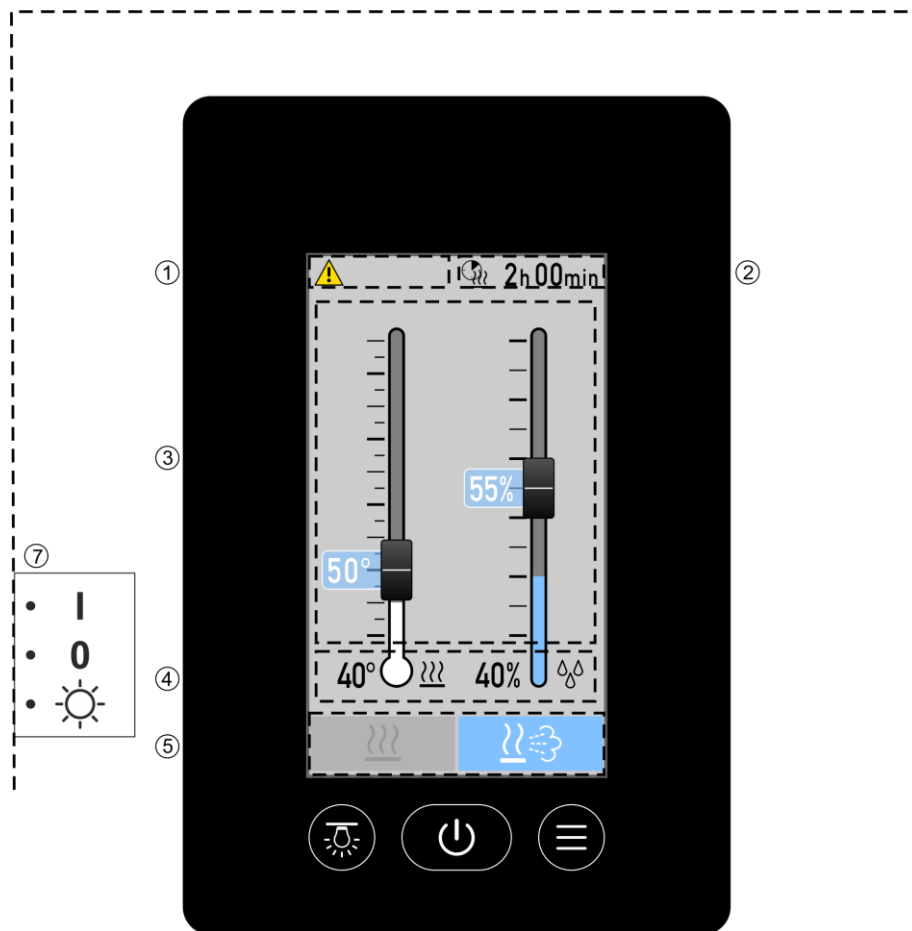

Fig. 2: View of the controls for the FCU5xxx Design Touch
The following symbols can be shown in the status bar (1 in fig. 2):
1. Use the "Control unit ON" key to switch on the sauna control unit. → Refer to page 11 (fig. 2) or page 12 (section 4.2.2).
2. Use "Control unit standby" or "Power OFF" to switch off the sauna control unit → Refer to page 11, fig. 2 or page 12 (section 4.2.2).
2. Use the adjustable slider in the "Temperature / humidity settings" section (refer to fig. 2) to set the preferred temperature / humidity (refer to table 4).
3. The current values for temperature/humidity are shown in the section "Display temperature/humidity in the cabin (refer to fig. 2). The values are also shown as icons in the display.
4. Press and hold the section "Heating period / Remaining heating period" (refer to fig. 2) until the menu opens in order to adjust the heating period (refer to page **Fehler! Textmarke nicht definiert.**).